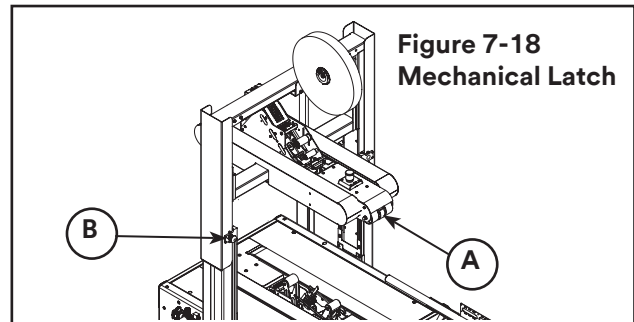

**Figure 7-18
9. Mechanical Latch, Upper Drive Assembly (Figure 7-18)